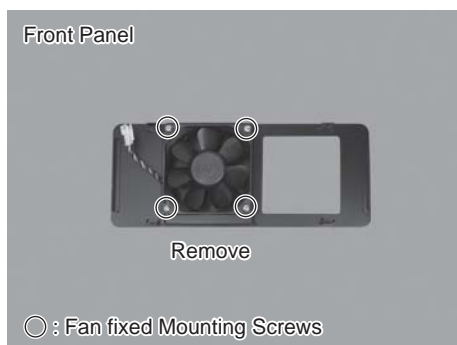

Fig. 41
- (6) Remove the FAN Mounting Screws (4pcs.) from the Case (Front Panel) of the CONTROLLER (Fig. 41).